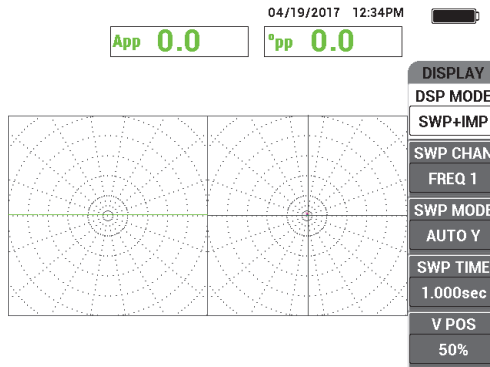

Figure 5-230 The SWP + IMP display
6. Press the DISP menu key (□), followed by **DSP MODE** (display mode, A key), and then rotate the knob until **SWP + IMP** (sweep plus impedance) is displayed (see Figure 5-230 on page 291).